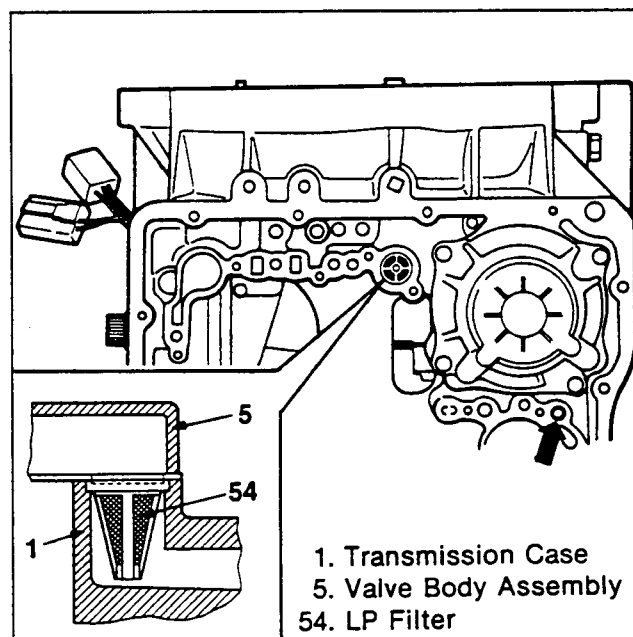

Figure 295. LP Filter Installation
Valve Body Assembly (Figures 295, 296 and 297)
1. Install the LP filter into the transmission case (figure 295).